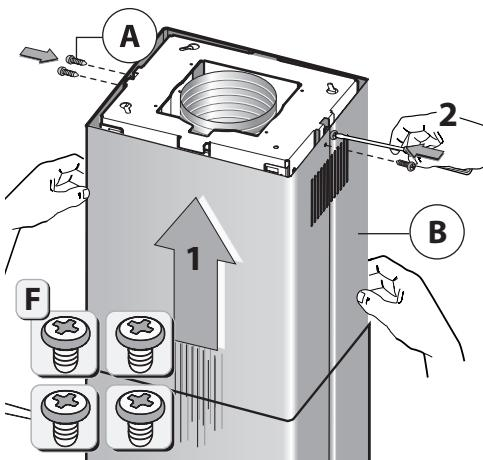

Fig.9
- Take the upper chimney piece and fix it to the structure using the screws **A** (Fig.9). Join the lower chimney piece with the upper one and fix it carefully using adhesive tape **L** (Fig.10A).
- Lower the upper chimney by performing the reverse operation shown in figure 9.